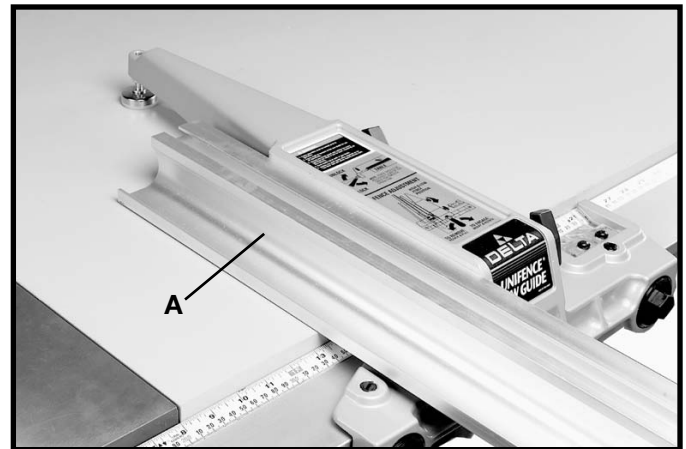

Fig. 122
When using the fence as a cut-off gage, simply position the fence (A) to the front (Fig. 122), or purchase the accessory 12" long fence (B), Fig. 123. Fig. 124 illustrates a typical operation using the accessory 12" long fence (B) as a cut-off gage.